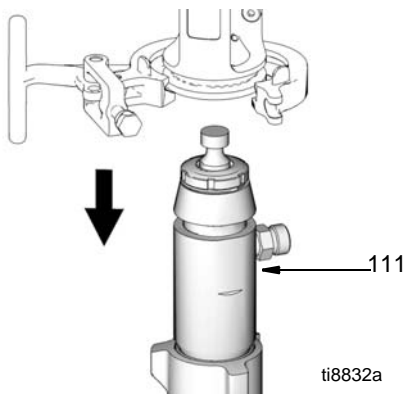

FIG. 19
- 9 (Fig. 19) Remove pump (111) from unit.